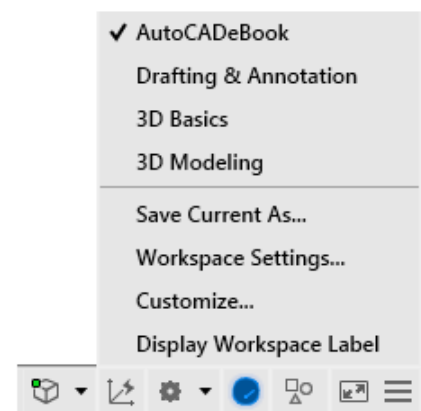

Figure Step 4A
Step 4 Click the small arrow in the Workplace Switching icon on the Status bar. Click the workspace: AutoCADEBook to set it as the current workspace. Make sure that the check mark is beside the workspace: AutoCADEBook as shown in the figure. (Figure Step 4A and 4B)